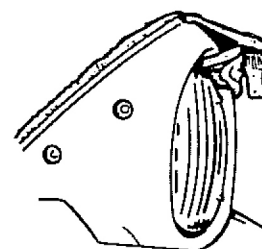
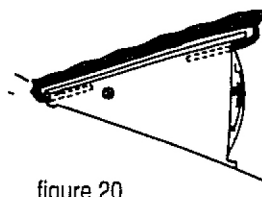

figure 19
figure 20
- 3.3 Insert the forward mounting tab(s) into the space between the headlight and the sheetmetal, the headlight and the bezel, or between the sheetmetal and bezel as shown in figures 19 & 20. Lower the headlights and stretch the material so that the material can be wrapped over the trailing edge of the headlight door. The rear mounting tab inserts into the space behind the headlight as shown in figure 20. When correctly installed, the headlights can be raised or lowered without interfering with the normal movement of the headlights and without affecting the tension of the vinyl as it stretches over the headlight door.